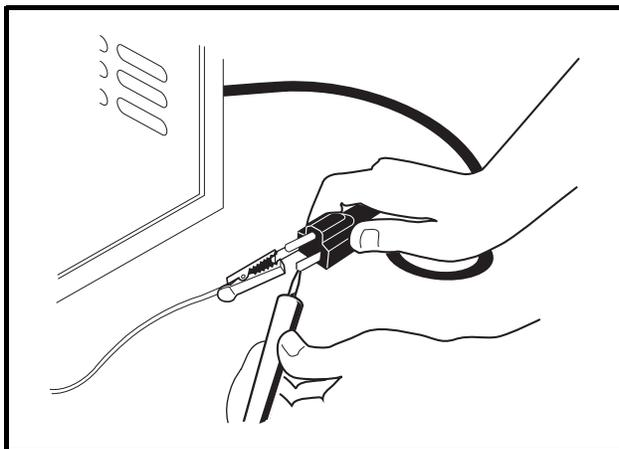

Figure 3-17 AC Cord Test
- 5.3. With relay bypassed, there should be continuity across the AC cord blades (**Figure 3-17, Page 3-19**).